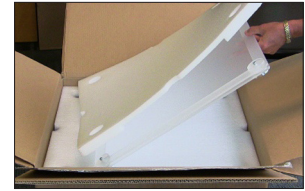

Fig. 1
1. Open the box and remove the top acrylic lid located between two layers of foam. Set aside the two foam inserts for future packing. (Fig. 1)